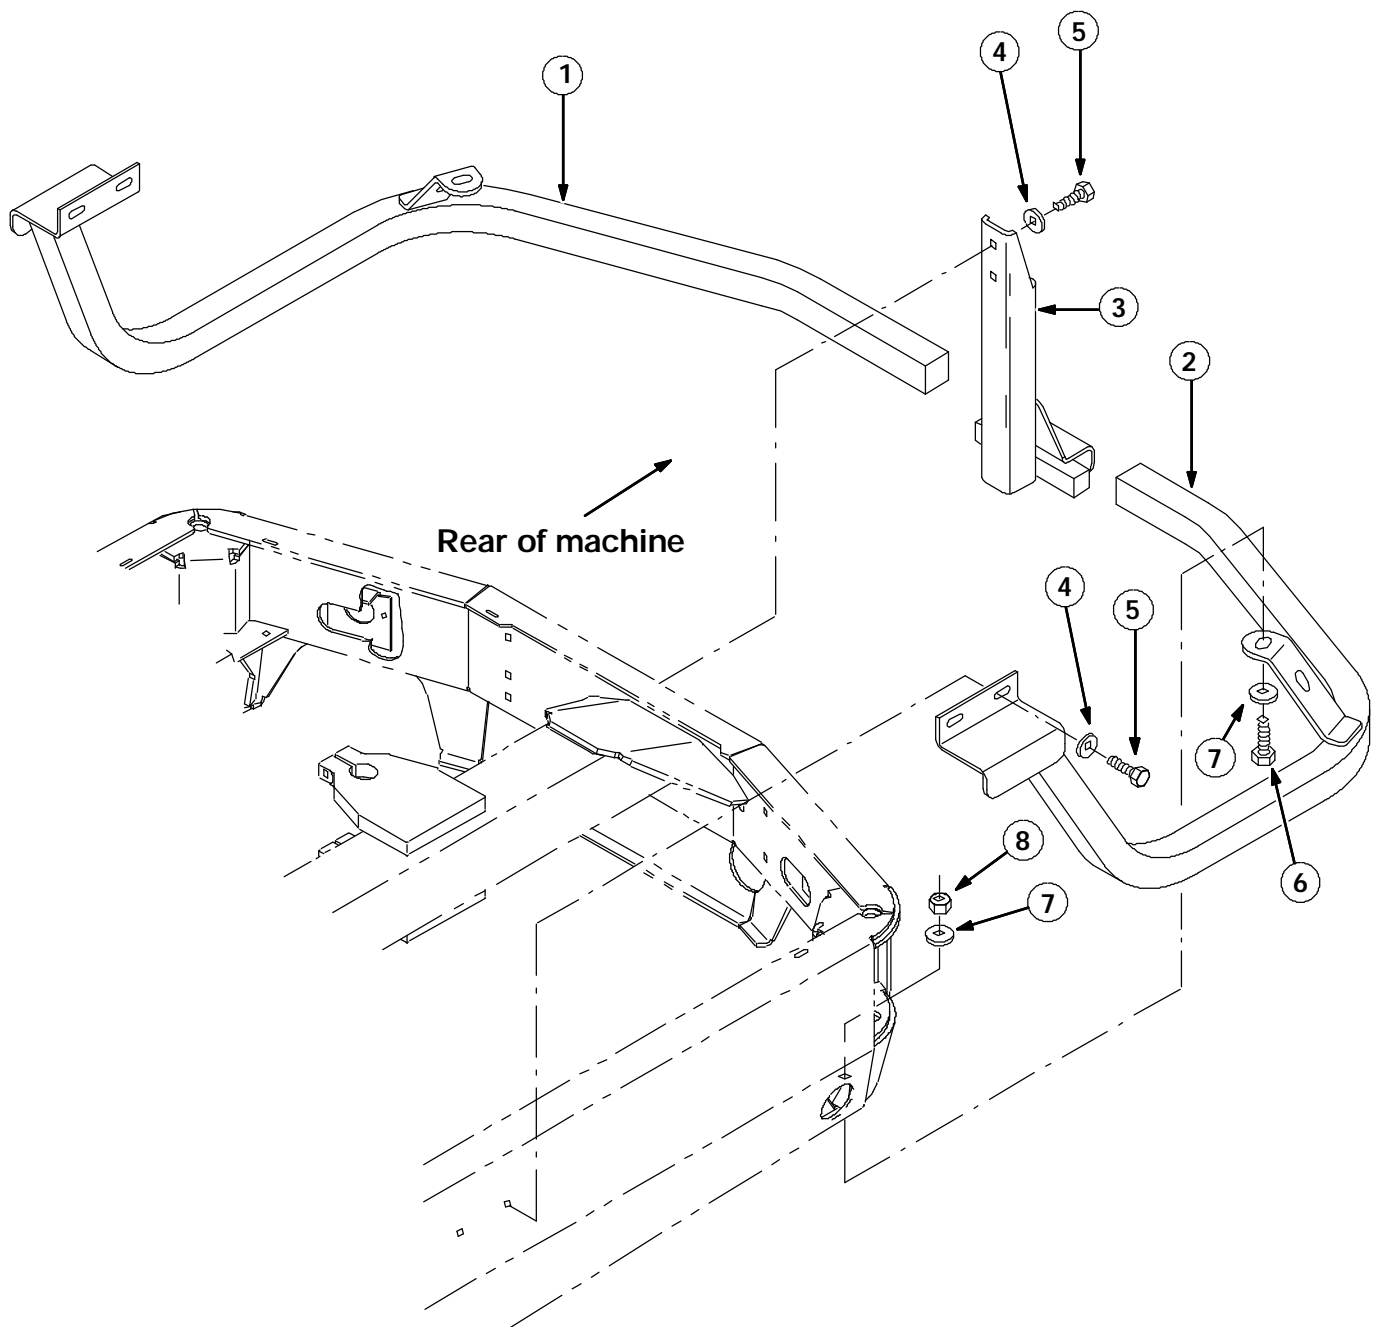

FIG. 3 - SQUEEGEE GUARD KIT INSTALLATION
3. Mount tube assembly (3) to mounting holes in rear of machine with hex screws (5) and washers (4). (Refer to FIG. 3)
4. Insert open end of right hand guard assembly (1) into right side of tube assembly (3). (Refer to FIG. 3)
5. Loosely mount side mounting bracket of right hand guard assembly (1) to side of machine with 2 hex screws (5) and 2 washers (4). (Refer to FIG. 3)
6. Loosely mount corner mounting bracket of right hand guard assembly (1) to rear right corner of machine with 1 hex screw (6) 2 washers (7) and 1 nut (8). (Refer to FIG. 3)
7. Mount left hand guard assembly (2) loosely to machine in same order, opposite the right hand guard assembly (1). (Refer to FIG. 3)